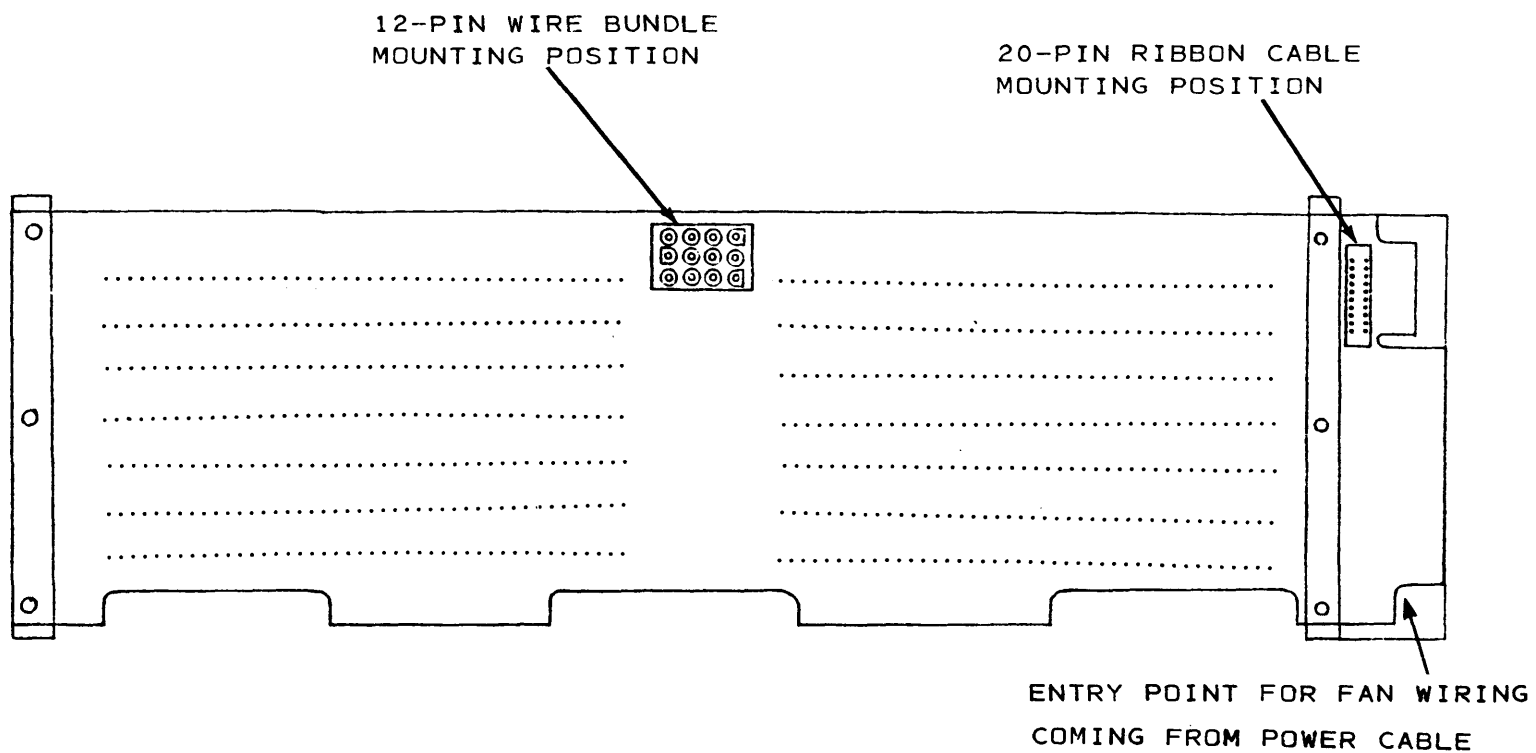

FIGURE 4-5. POINT 4 PROCESSOR CHASSIS BACKPLANE
4. Power Supply Cabling: The POINT 4 processor chassis comes with a 6 foot long cable assembly attached to the rear of the chassis. This cable assembly consists of a ribbon cable and a wire bundle strapped together. Processor chassis connections are made at the factory. Check to ensure that these cables are properly connected to the chassis. Mounting positions on the processor chassis are illustrated in Figure 4-5. Connectors and their mounting positions are: